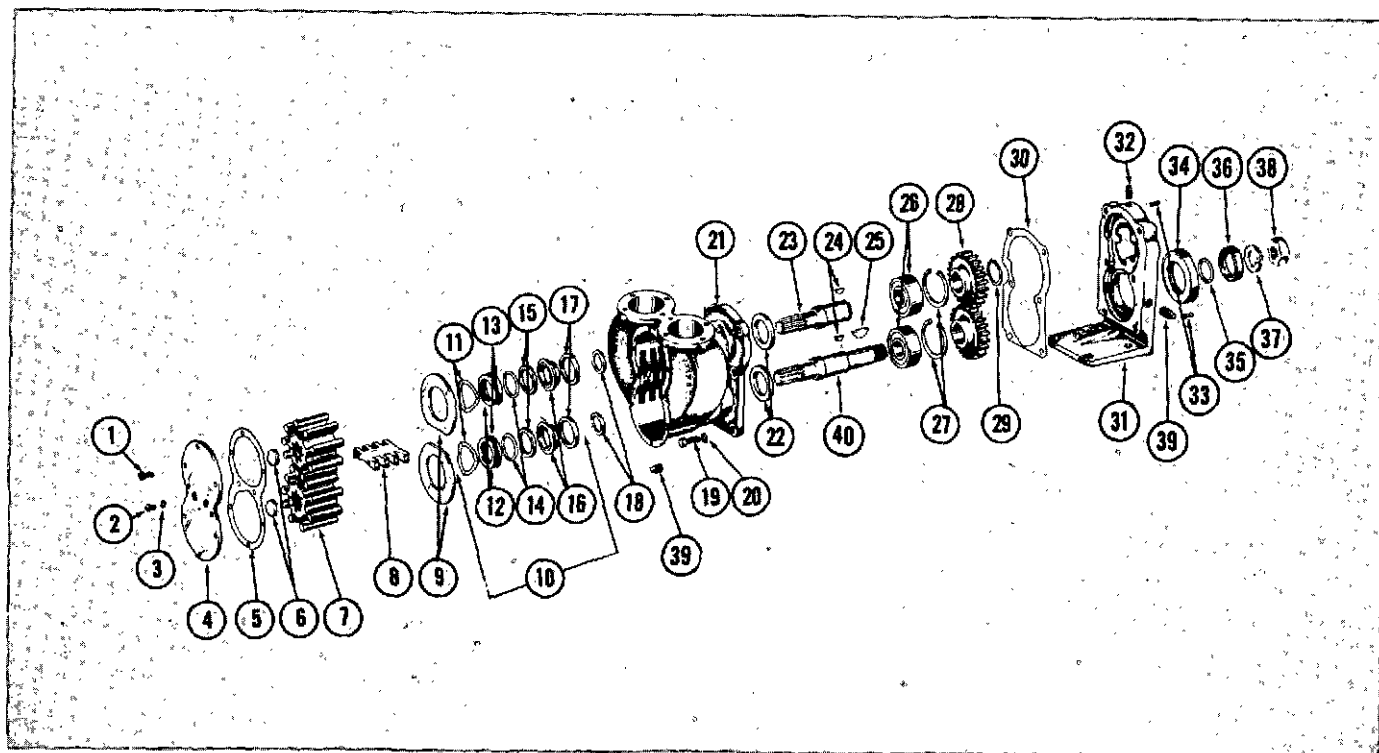

Fig. 8-6-1, V40816. Sea Water Pump — Exploded View
1. Remove oil drain plug (39, Fig. 8-6-1), oil filler plug (32) and both oil level plugs (39). Fig. 8-6-1.
2. Remove nut (38), lockwasher (37) and pulley from shaft (40).
3. Remove sleeve (36) from drive shaft (40).
4. Remove seal (34) from gear case (31).
5. Remove capscrews (19) and lockwashers (20) body (21) to gear case (31), lift gear case (31) from body (21) and discard gasket (30).
6. Remove dowels (33) from gear case (31) flange (as necessary).
7. Remove screws (2) and flexrings (3) end cover (4) to cam (8).
8. Remove screws (1), end cover (4) and gasket (5); discard gasket.
9. Remove spline seals (6) from impellers (7); discard seals.
10. Remove impellers (7).
11. Remove cam (8) from body (21).